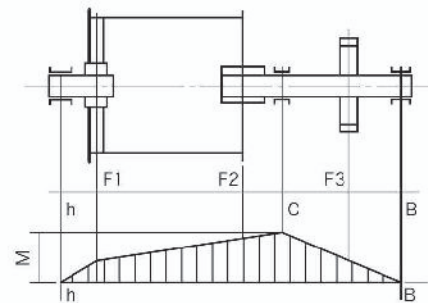

Fig. 3
3. The rubber is cut at one point on its circumference and a gap should be left when installing as shown in Fig 3 and as determined in table 1 according to size.
4. In case of a single drum drive with rigid connection of gear shaft and drum,(see fig.3) a given load  $F$  and bending or alignment error will produce a max. bending moment at the end of the gear shaft and of  $M$ .